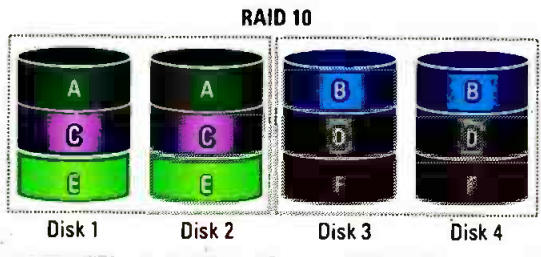

Figure 5. RAID 10 combines RAID 1 and 0 by striping data across two pairs of disks, where each disk in a pair is a mirror of the other.
- **Hybrid RAID.** RAID methods can also be combined or nested. The two most common hybrid RAID levels are RAID 10 (or 1+0) and RAID 01 (or 0+1). RAID 10 requires a minimum of four disks paired in two sets. The controller stripes the data across the disk pairs, but each disk in the pair is a mirror of the other. RAID 01 takes the opposite approach, striping the data across one set of disks which are mirrored to a second set. (See Figure 5.)